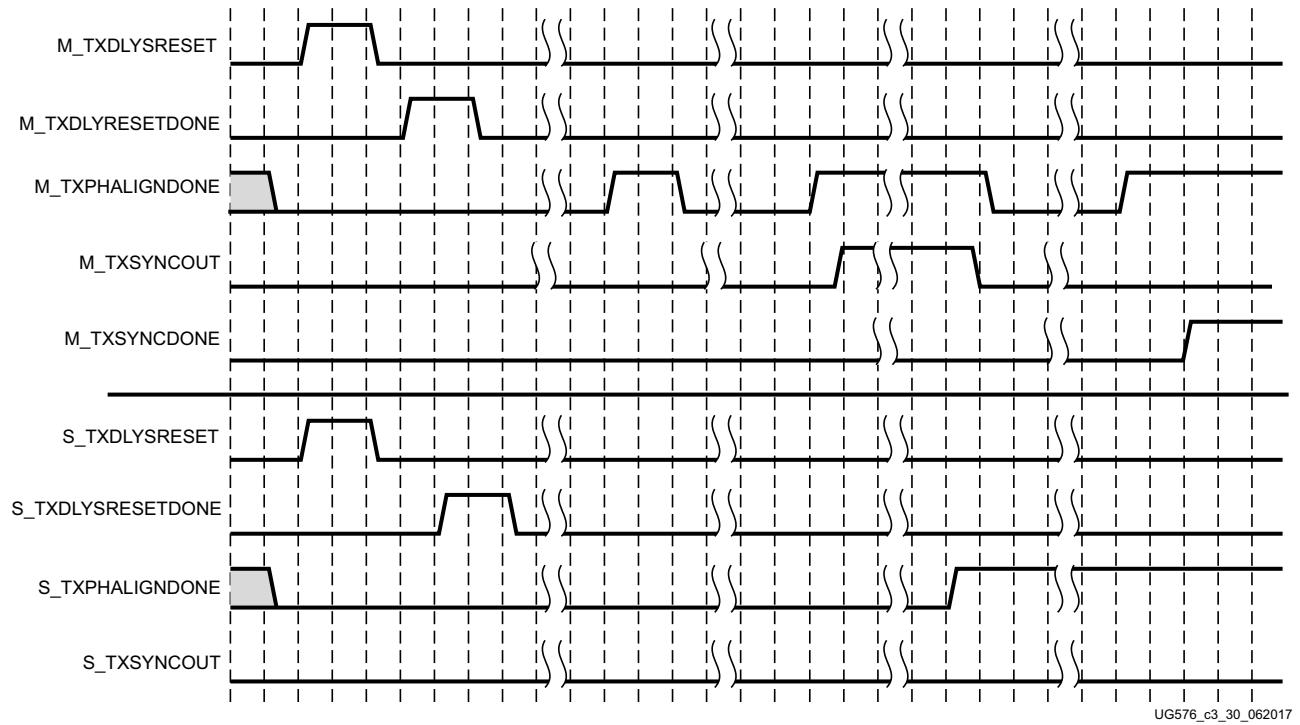

Figure 3-25: TX Buffer Bypass Example, Multi-Lane Auto Mode
Figure 3-25 shows the required steps to perform manual TX phase and delay alignment.
Notes relevant to Figure 3-25:
1. The sequence of events shown in Figure 3-25 is not drawn to scale.